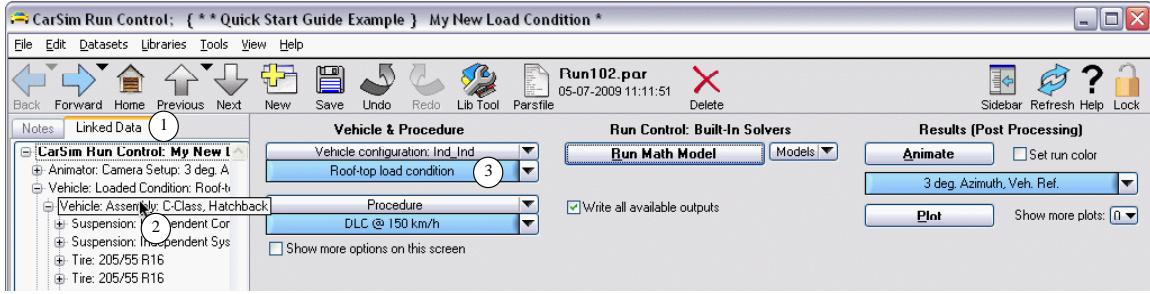

Figure 39. The **CarSim Run Control** screen with the **Linked Data** sidebar.
Continue with the **CarSim Run Control** screen, with the dataset created in the previous section (**Quick Start Guide Example; My New Load Condition** (Figure 39).
9. Click the **Home** button to return to the **CarSim Run Control** screen. The run title is **My New Load Condition** (Figure 39).